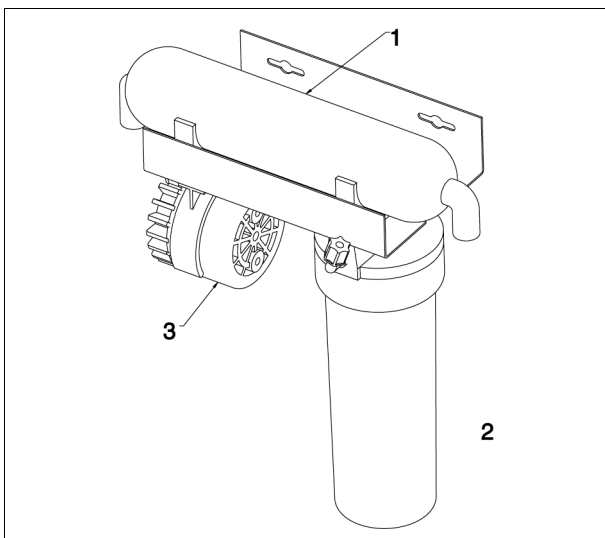

Fig. 18
- Screw off the filter housing (-2- Fig. 18) and remove the filter element.
- Remove the lines to the membrane cartridge head (-1- Fig. 18).